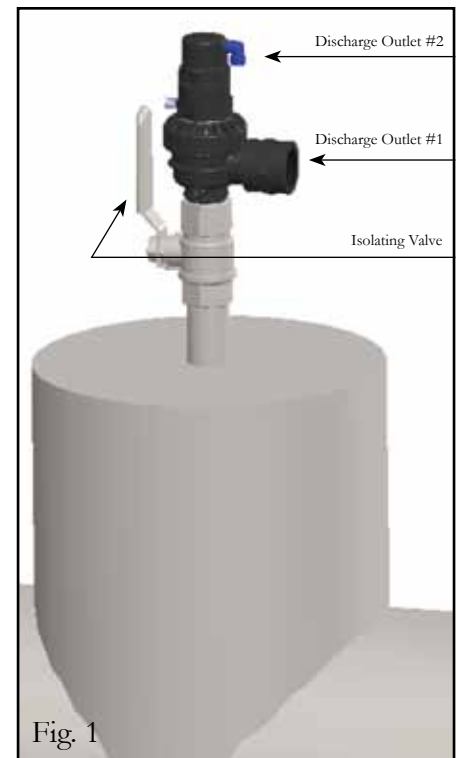
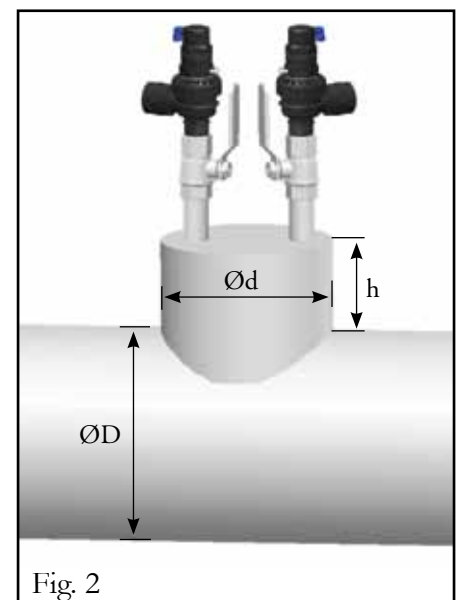

Fig. 1
Fig. 2
**Installation of a riser:** It is recommended to install the Model D-070-P air valve on top of a riser (see Fig.1). Diameter and height of the riser should be according to the following table (also see Fig. 2):
**Manifold:** When the valve is installed on a manifold, the air valves should be installed only on a welded manifold. They should be installed with the Discharge Outlet/Drainage Elbow openings facing in opposite directions (Fig. 2).
**Drainage Elbow:** It is mandatory that a Drainage Elbow be installed at the Discharge Outlet (#1); the diameter of the Drainage Elbow shall be at least the diameter of the Discharge Outlet #1 (Fig. 1). The Drainage Elbow is supplied as standard with the D-070P air valve.
**Caution:** Do not put hands or objects into the Discharge Outlet#1 (Fig. 1).
1. Shut the isolating valve (Fig.1) on the riser below the air valve.
2. Slowly open the Locking Ring (13) until water and air start to be released. Wait until all the water and air cease to be released before continuing